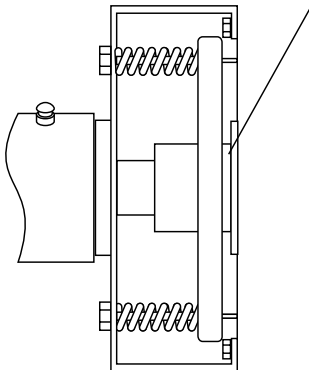

Figure 40. Replacing Drum Seals
3. Once the pressure plate touches the drum, it is time to replace the graphite seals (Figure 40).